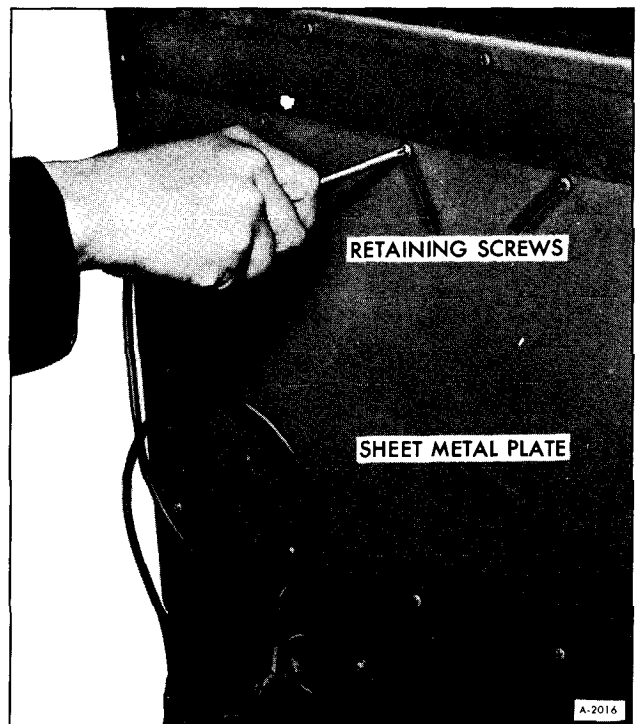

Figure 13-Removing Sheet Metal Plate
7. Remove sheet metal plate from back of refrigerator as shown in Figure 13.
7. Install sheet metal plate over rear opening (figure 13).